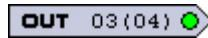
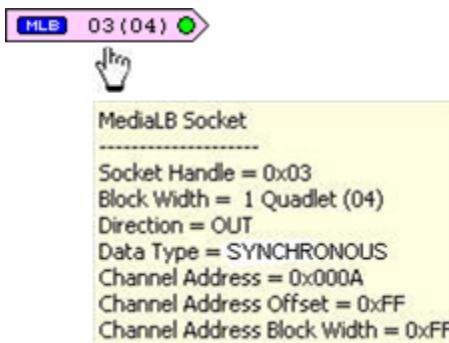

Figure 2-26: Not Connected OUT Socket
Figure 2-27: Connected OUT Socket with Quick Info
Figure 2-26 depicts the symbol of an OUT socket highlighted in the specific color of the MediaLB Port.
E.g., the green circle in Figure 2-26 shows the OUT socket is prepared to transport streaming data. Figure 2-27 depicts the same OUT socket as shown in Figure 2-26 but connected.